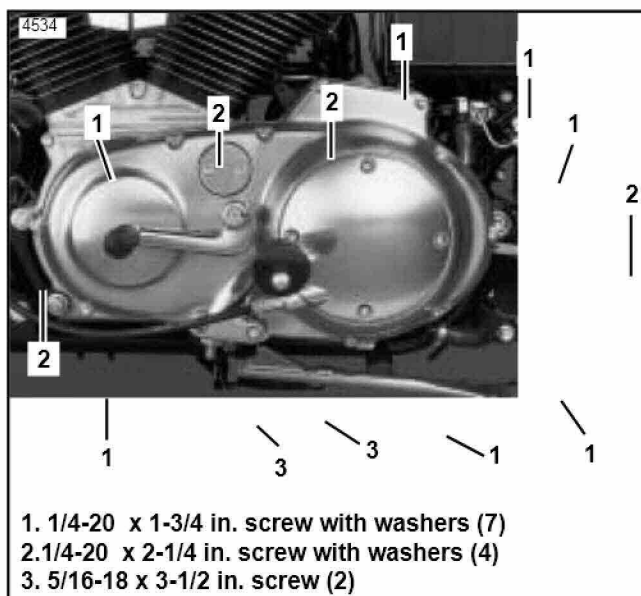

Figure 2. Primary Cover Bolts - 1991-1993 Models
- See Figure 2. Install new primary cover onto left crankcase half using saved mounting screws and washers at locations illustrated. Tighten screws to 80-110 in-lbs (9.0-12.4 Nm).